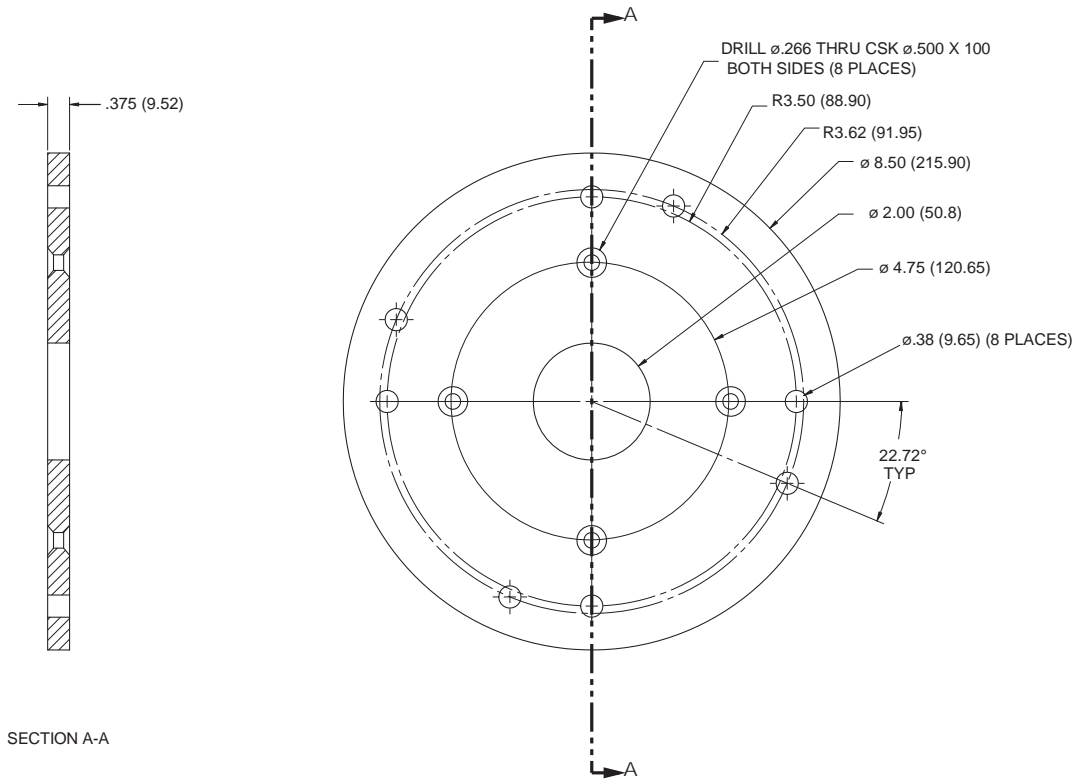

Figure 20. Dimensions, Large Base (LPED). Dimensions in inches (mm)
- has four 5/16-inch studs permanently attached for a wall mount installation. See Figure 20